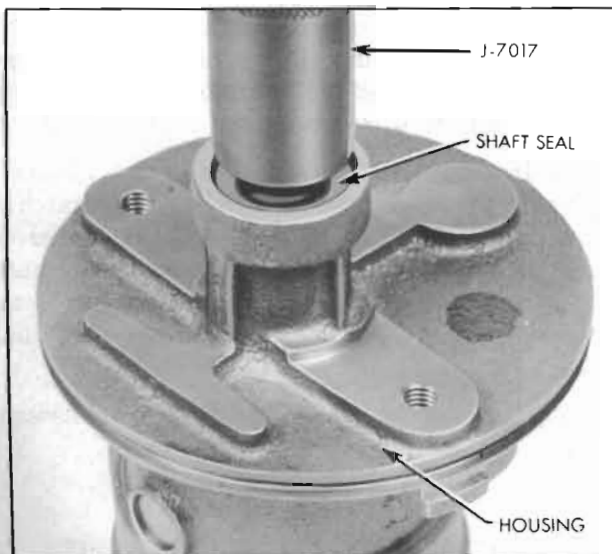

Figure 8-56—Installing Shaft Seal
2. If shaft seal was removed, use installer J-7017 to drive new seal into housing with spring side of seal toward housing. See Figure 8-56. Just bottom seal in housing.